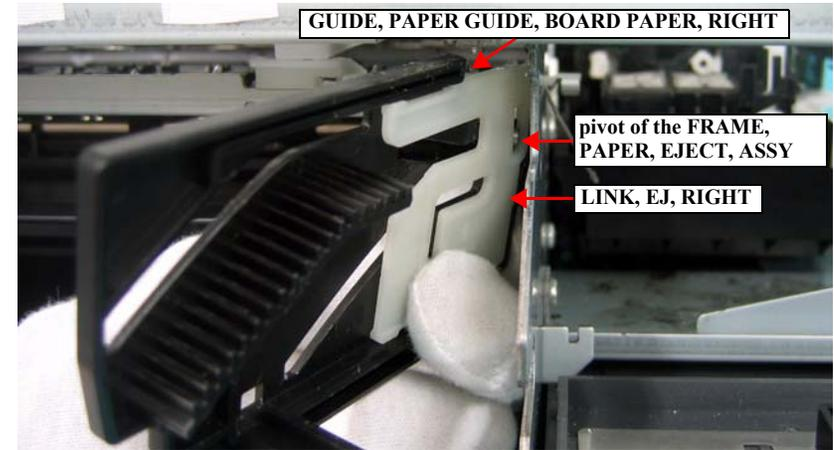

Figure 4-72. Removing the LINK, EJ, RIGHT and GUIDE, PAPER GUIDE, BOARD PAPER, RIGHT
10. Open the GUIDE, PAPER GUIDE, BOARD PAPER, RIGHT inward, and remove the LINK, EJ, RIGHT and the GUIDE, PAPER GUIDE, BOARD PAPER, RIGHT from the pivot of the FRAME, PAPER, EJECT, ASSY. *See Figure 4-72.*